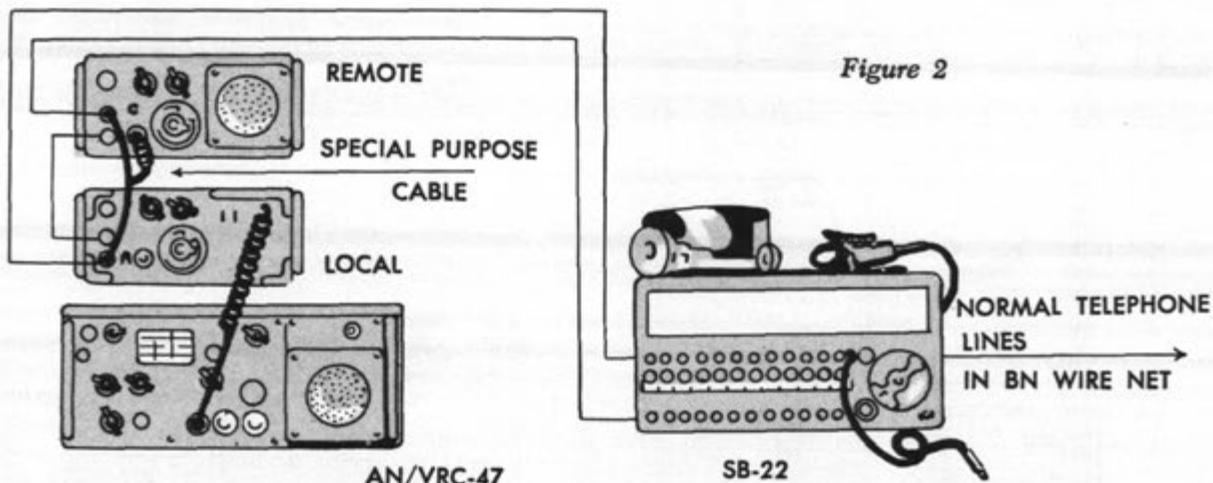

Figure 2
3. A better method of RWI to use is basically the same as that described above with the addition of a special purpose cable. This system is illustrated in figure 2.
remote unit. This cable allows the radio set to be keyed by the press-to-talk switch on the telephone set TA-312/PT, thereby relieving the radio operator of this requirement. All the radio operator has to do now is ensure that his radio is on the proper frequency and remind the user that he should use correct radiotelephone procedures. Correct installation of the field wire and special purpose cable as shown in figure 2 is essential to proper operation because of polarity.